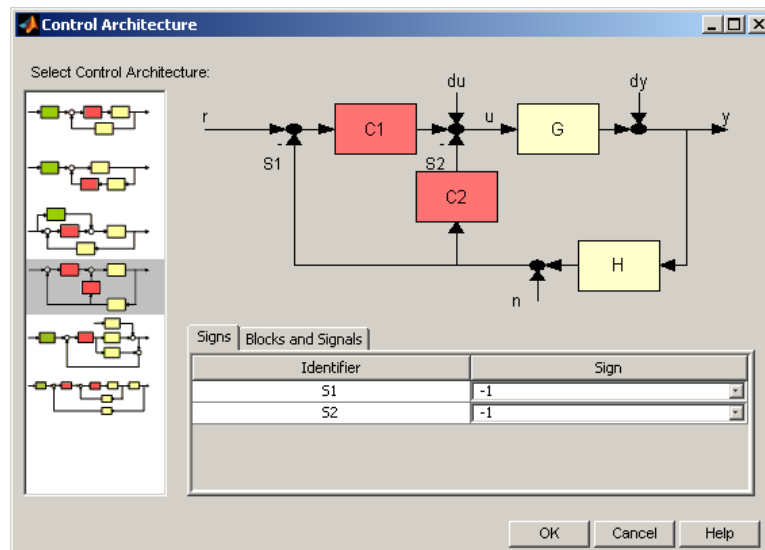

Figure 2: Control Architecture
2. Select the correct architecture and make sure that **sisotool** uses negative feedback for both loops (see Figure 2).